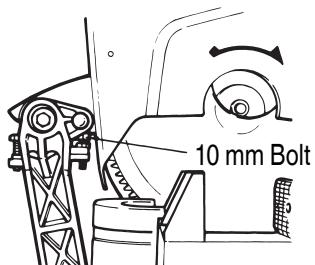

Fig. 3
1. Saw blade height adjustment (**Fig. 3**)